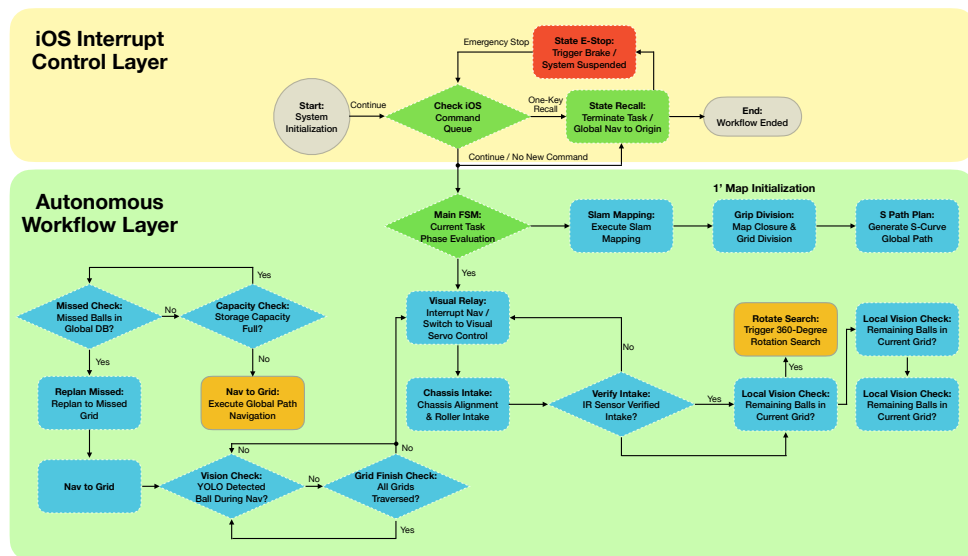

Figure 9: CourtSweeper full operational workflow: SLAM mapping → Nav2 path planning → dual-PID tracking → roller ingestion
1. The robot's high-level FSM (Figure 9) automatically transitions to the **SEARCHING** state and follows the Boustrophedon S-shaped coverage path across the court.